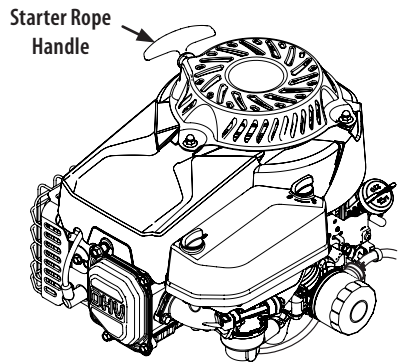

Figure 6
5. Grasp starter rope handle and pull slowly until rope pulls slightly harder (Figure 6). Let rope rewind slowly. Then pull rope with a rapid, full arm stroke. Let rope return slowly. If engine fails to start after three pulls, repeat instructions (try setting throttle at fast setting).